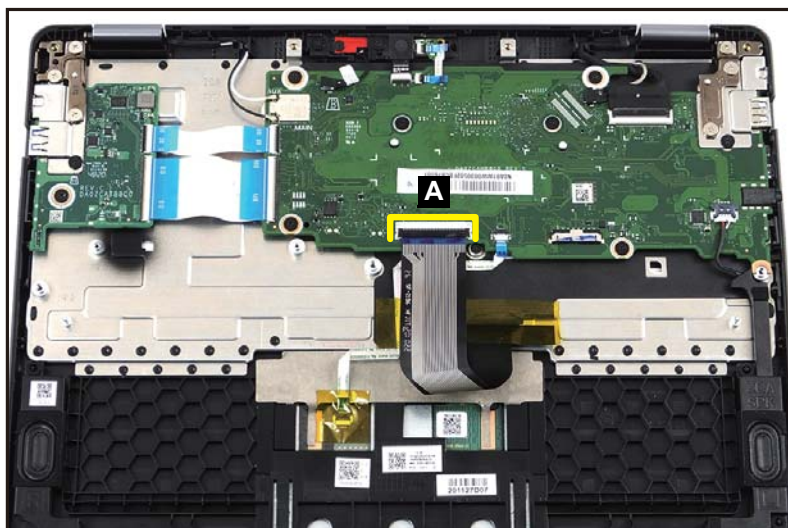

Figure 1-20. Keyboard Removal
1. Disconnect the keyboard FPC from the mainboard connector (A) (Figure 1-20).